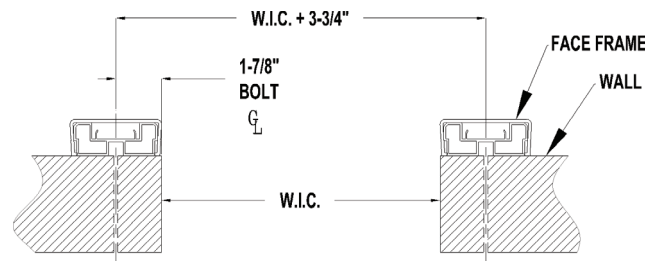

Figure 3: Wall Clip Position - Frames with no Jamb or Inside Trim
- Measure door opening to verify door mounting dimensions (Figures 3, 4, & 5). The Face Frames will fit flush to the sides of the opening as shown